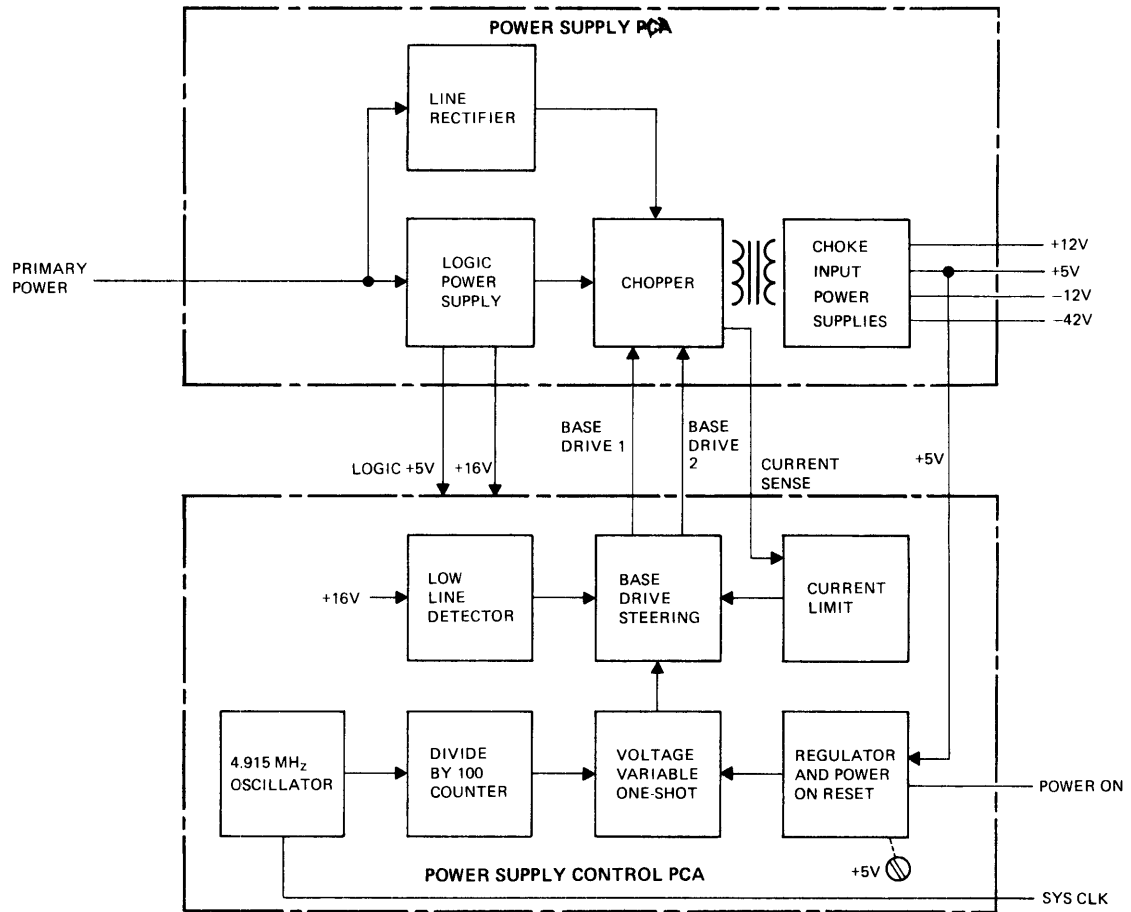
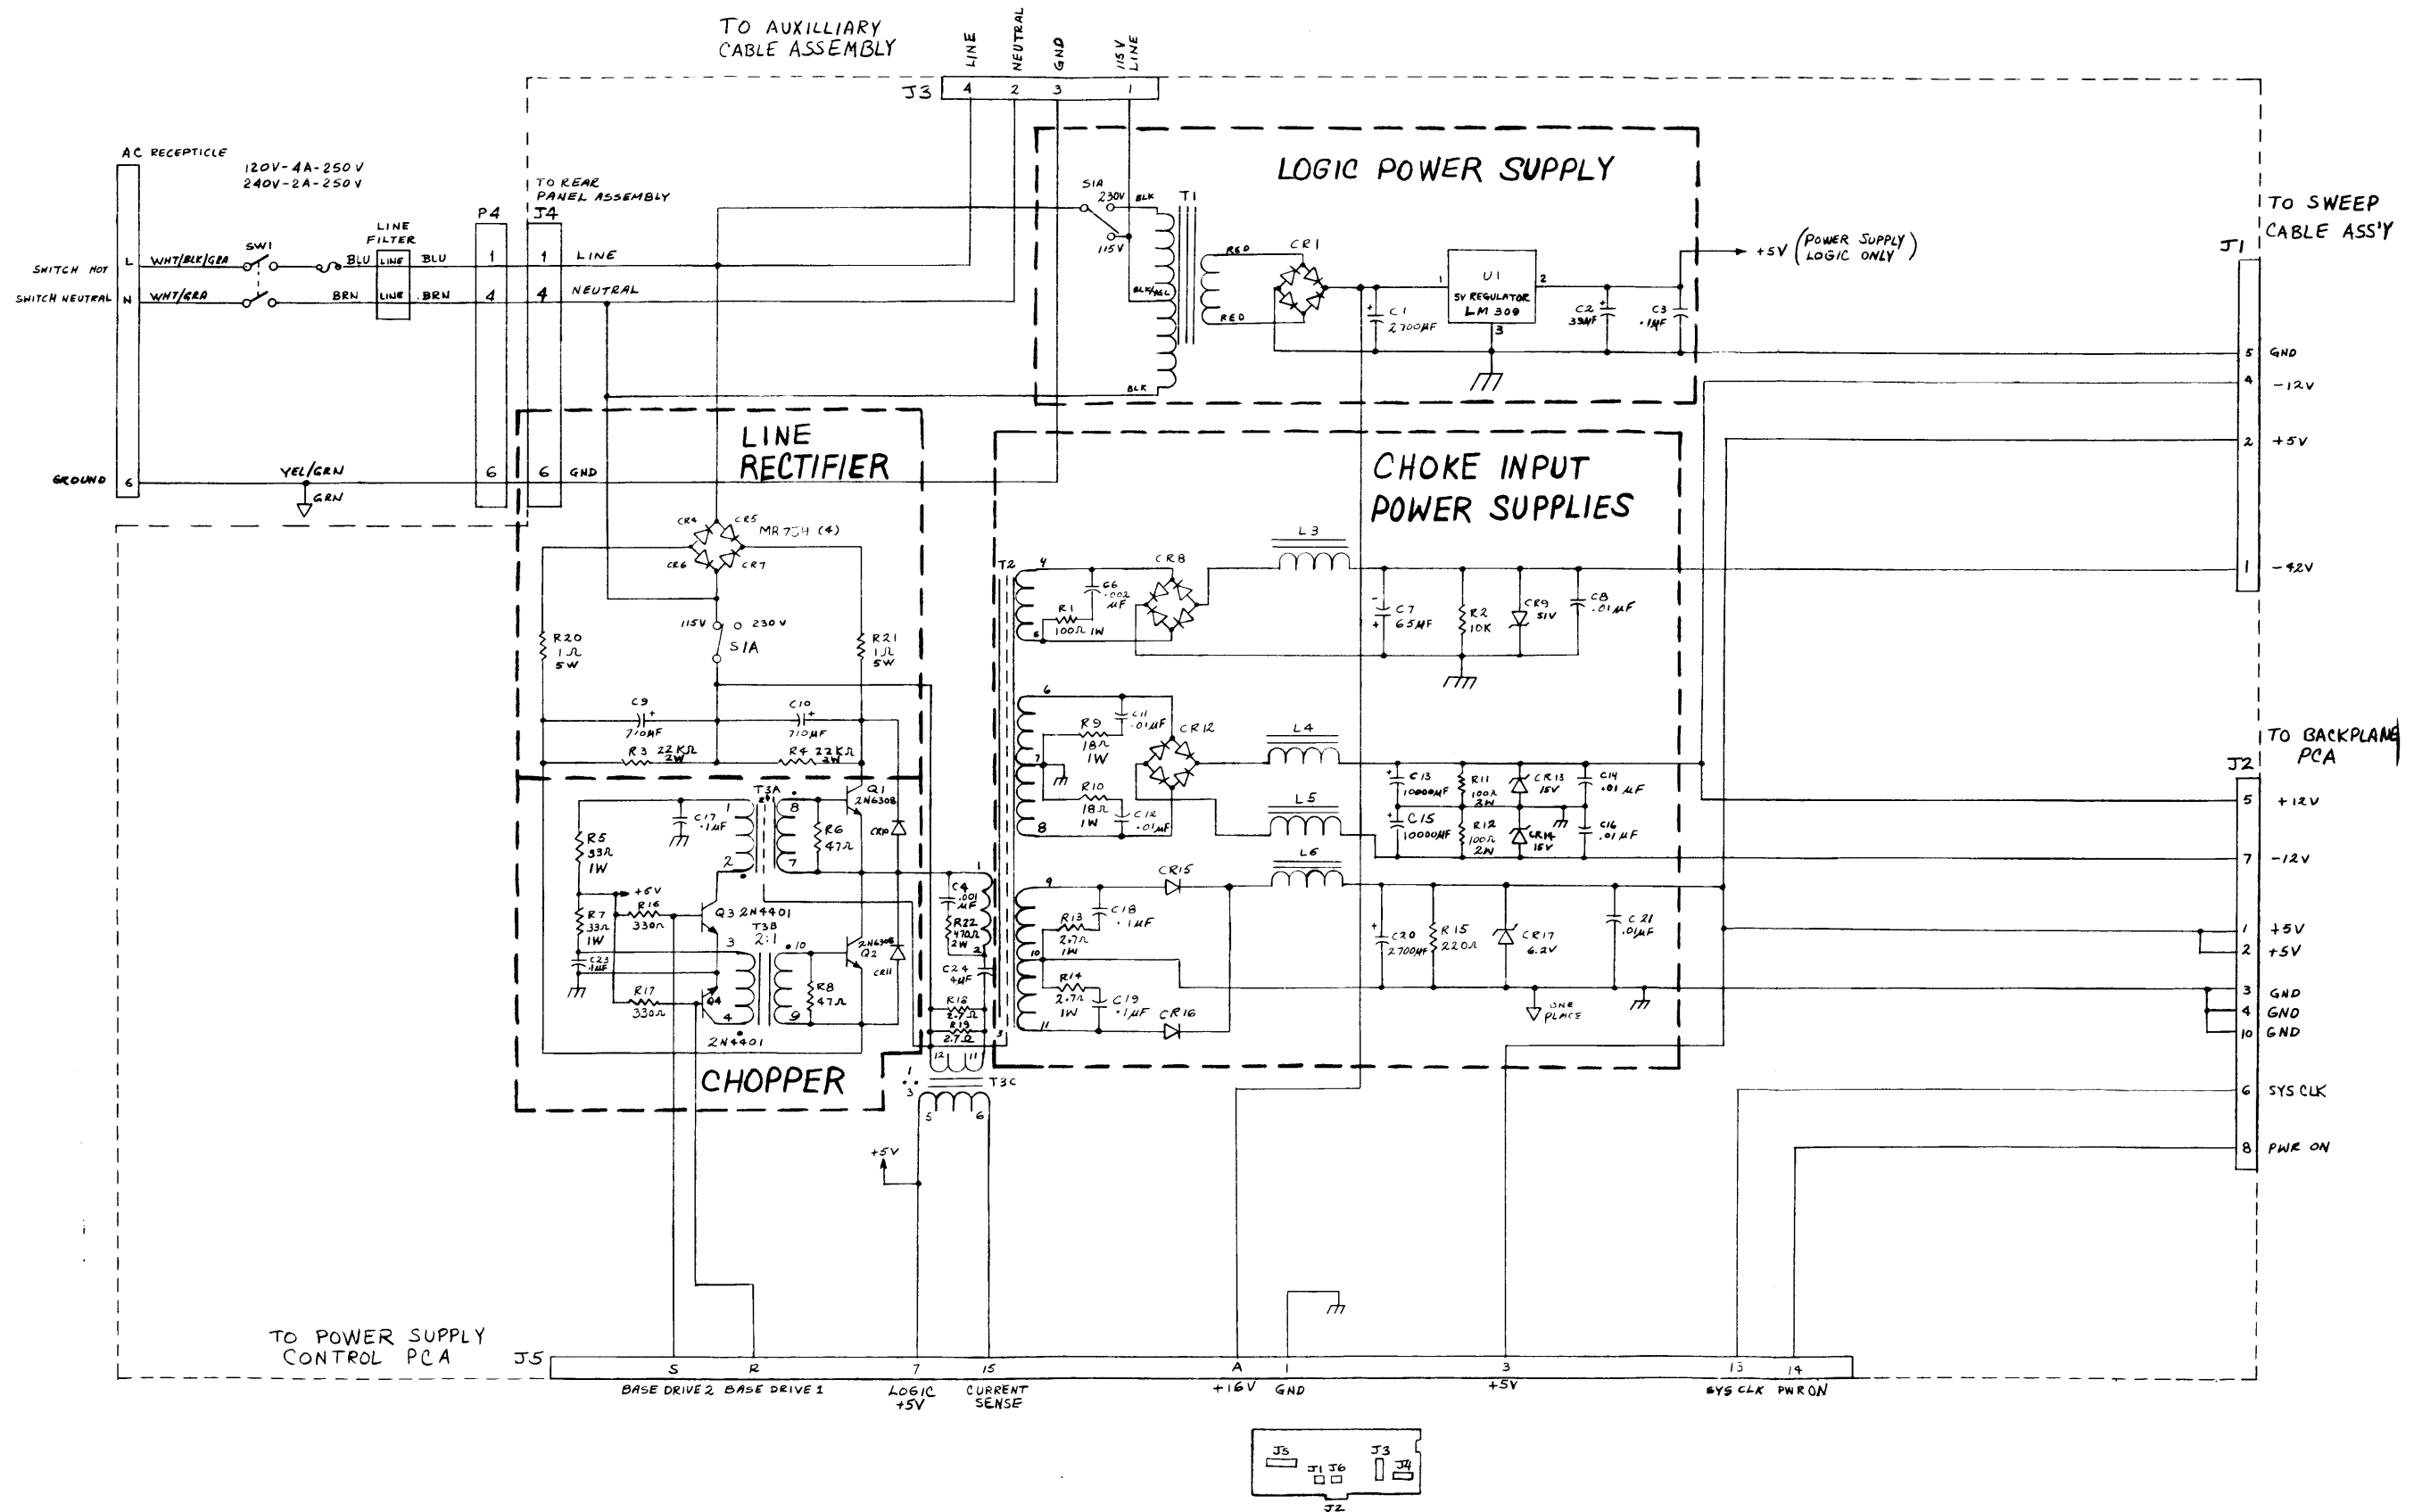
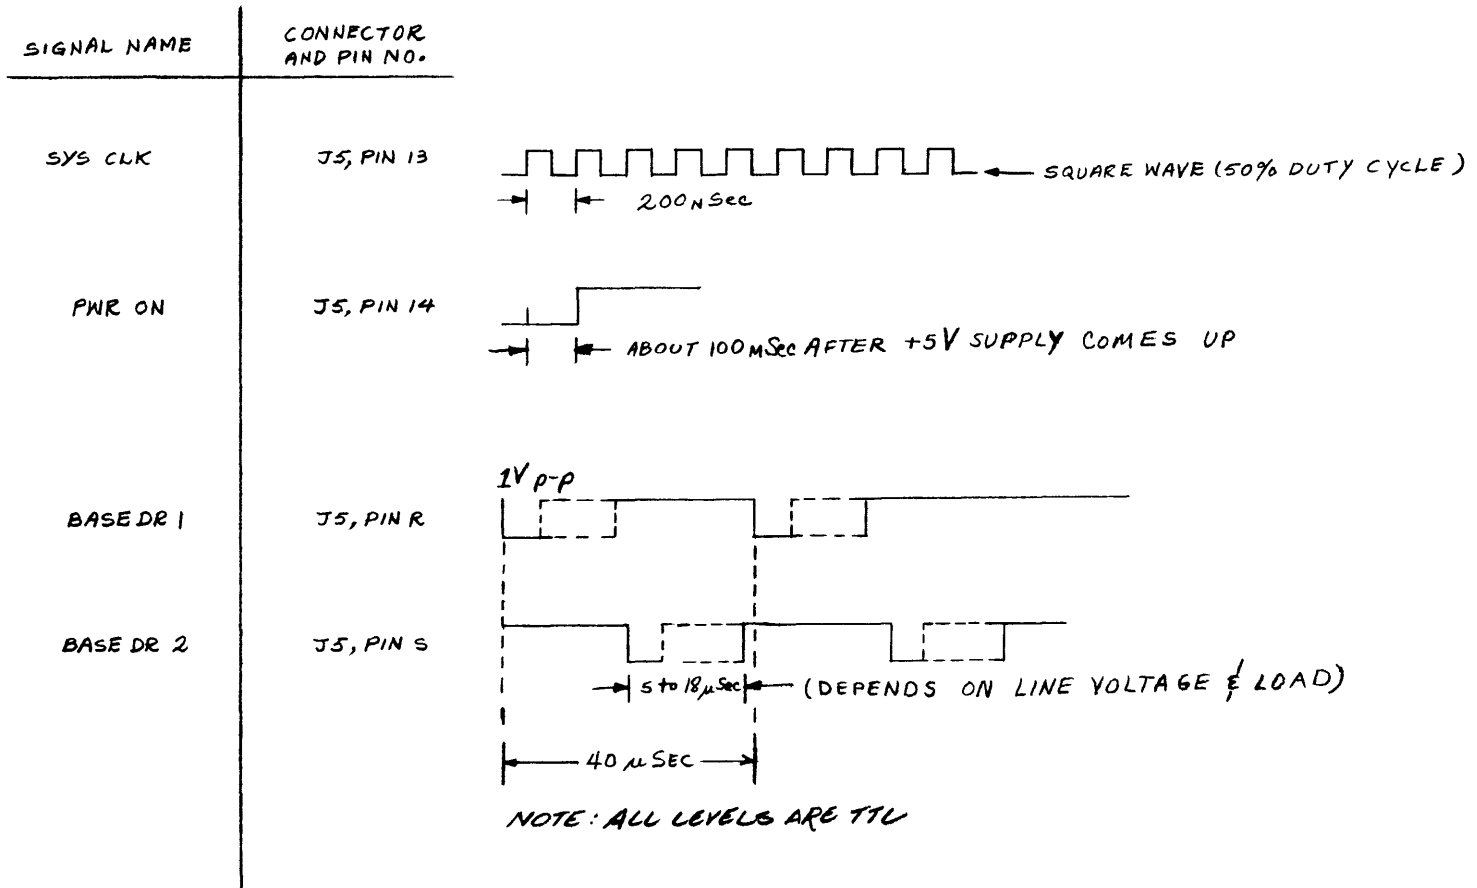
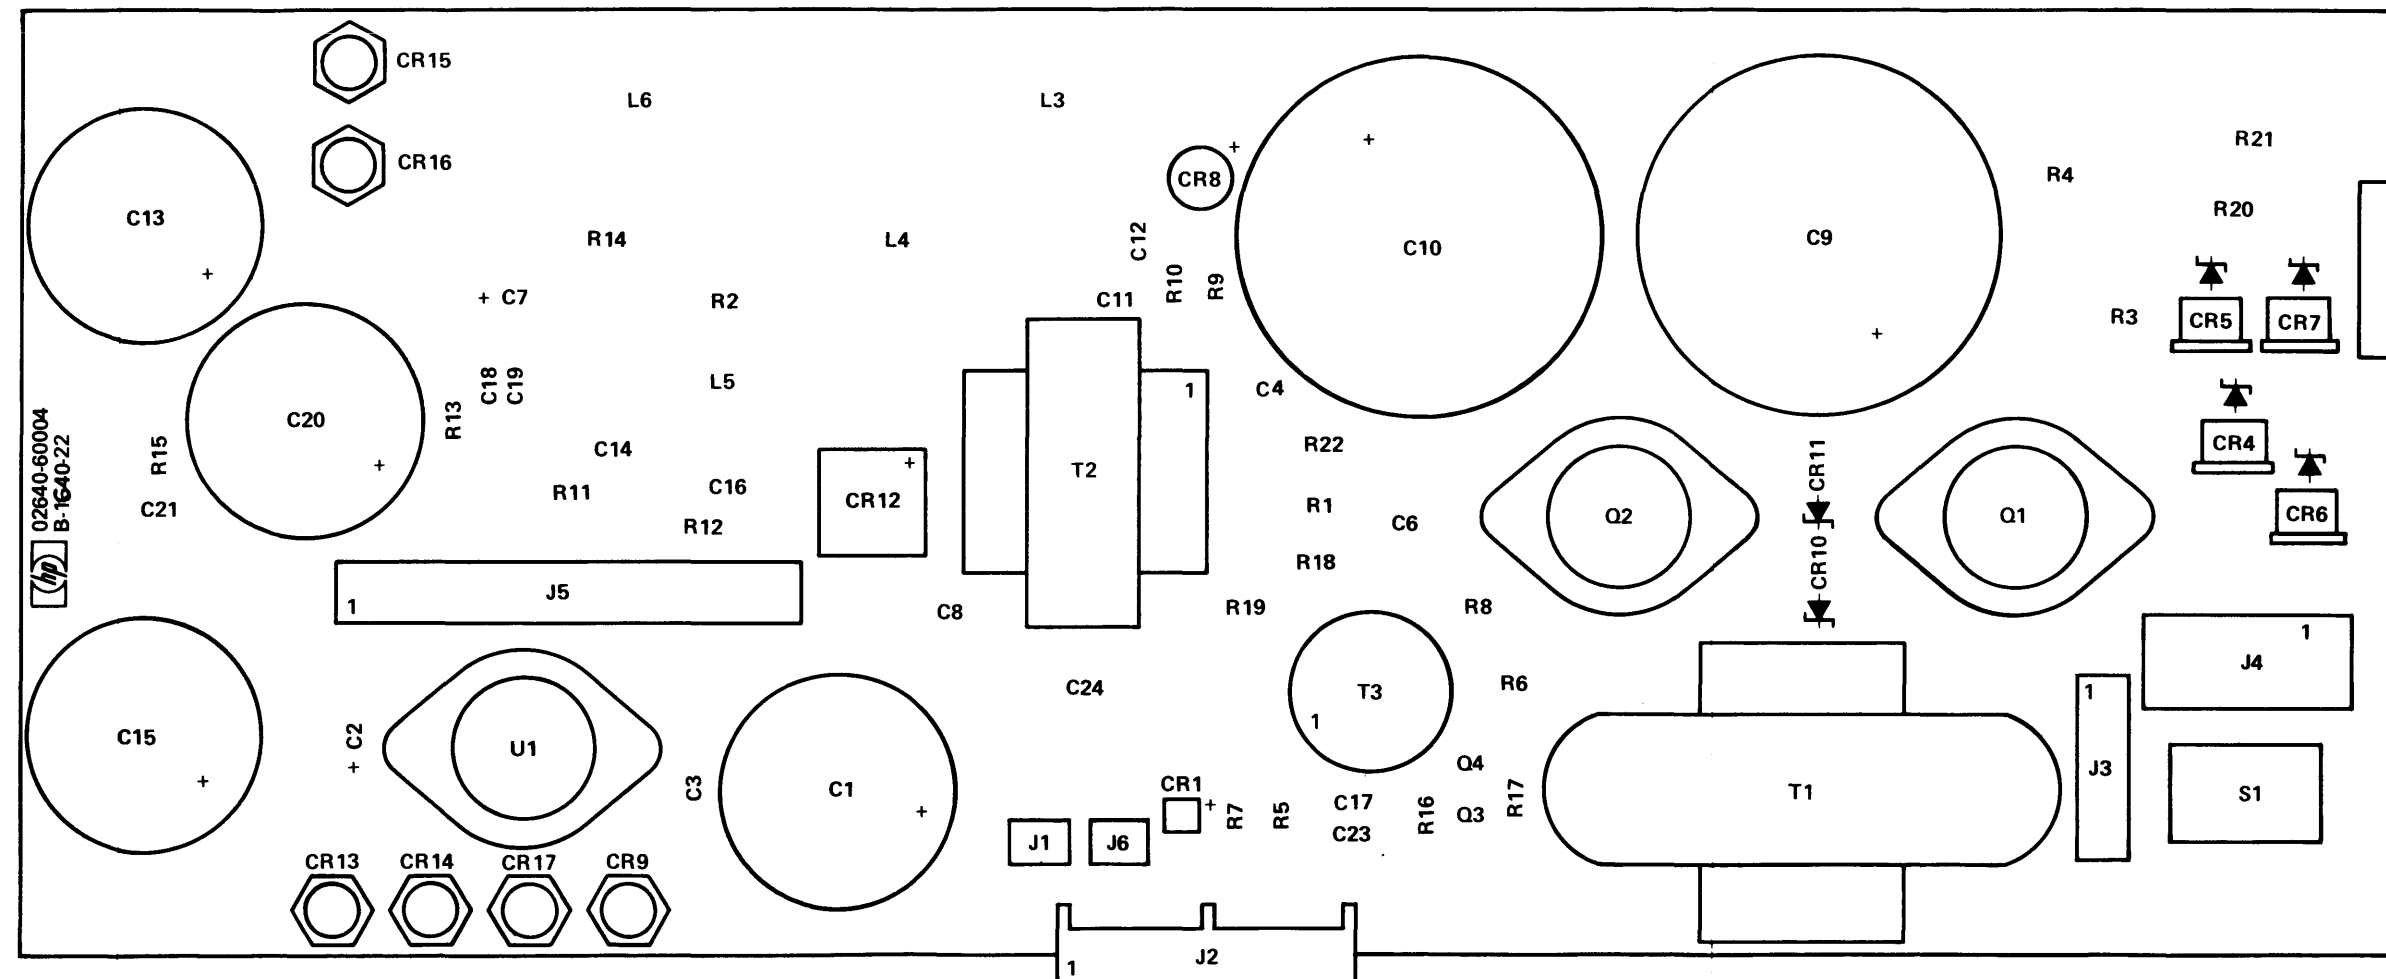

Figure 1
Figure 2
Figure 4
Figure 5
- 3.0 FUNCTIONAL DESCRIPTION. Refer to the module block diagram (figure 1), schematic diagrams (figures 2 and 3), timing diagram (figure 4), component location diagrams (figures 5 and 6), and parts lists (02640-60004, 02640-60027, 02640-60029, and 02640-60083) located in the appendix.
This block contains four independent choke input power supplies. In each, the pulse output of the power transformer is rectified and applied to a filter choke and then to a filter capacitor. The output voltages are as shown on the block diagram in figure 1. Note that only the +5 volt supply is sensed and regulated by the Power Supply Control PCA. The other voltages track the sensed supply and are kept within their accuracy tolerances without actually being sensed and regulated independently.